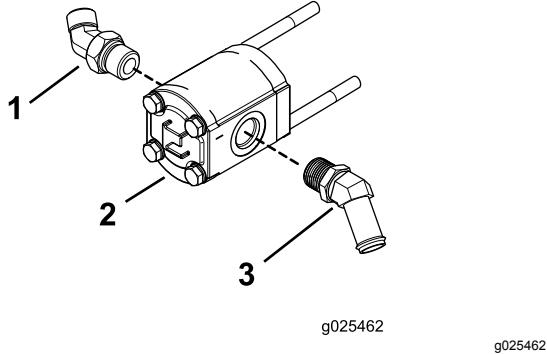

Figure 5
Note: Ensure the fittings are installed at the angles shown in Figure 5.
1. Thread the 45° fitting with O-rings into the driver's side of the pump (Figure 5).
2. Thread 45° fitting with hose barb into the right side of the pump (Figure 5).